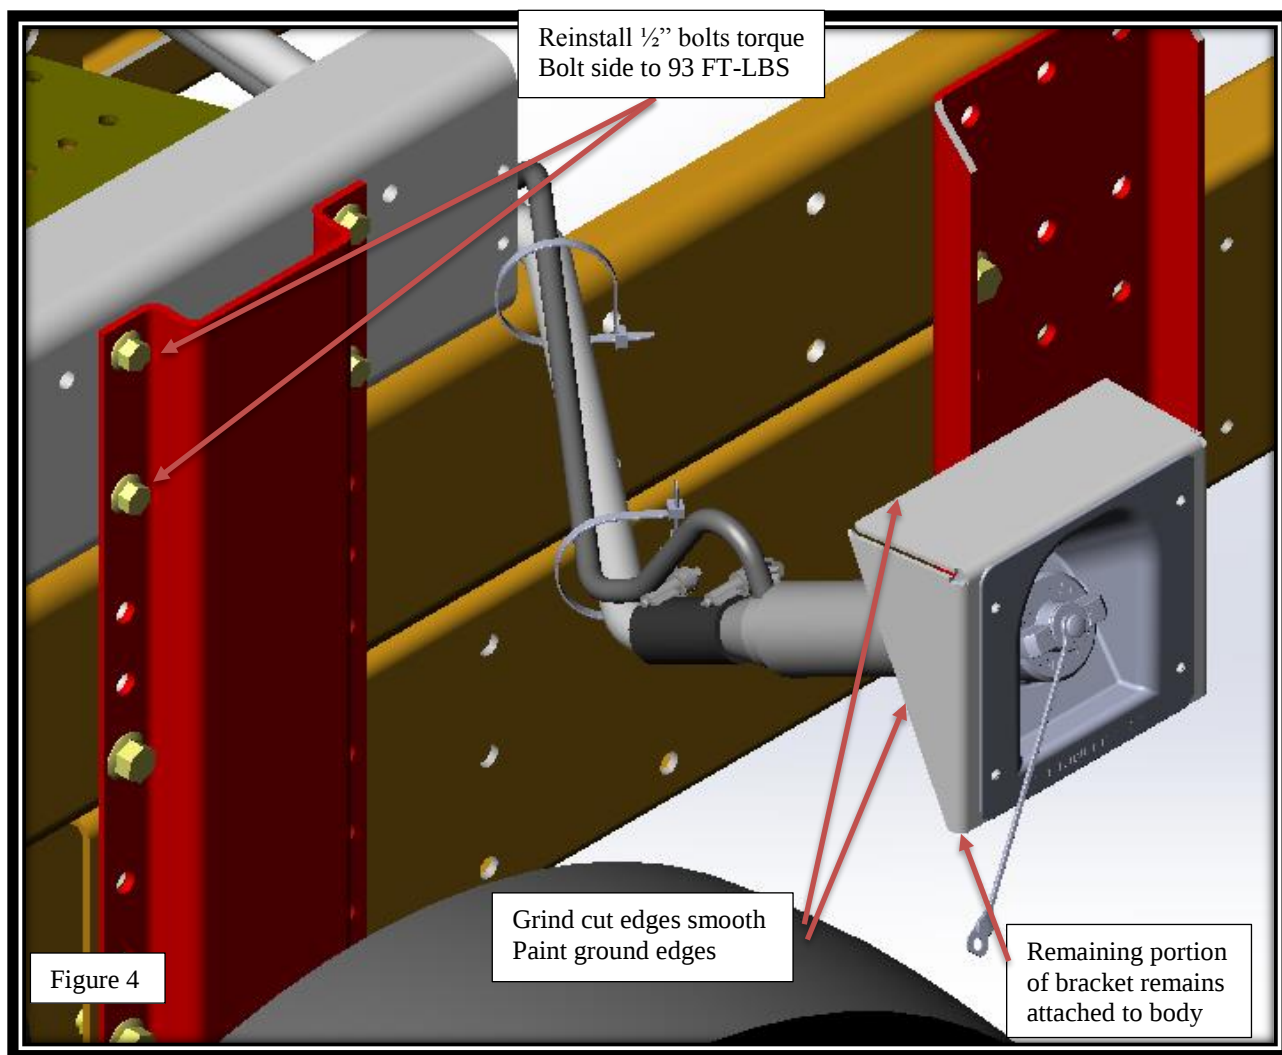

FIG. 5-1
9. Remove and discard cutoff part of bracket. Refer to FIG. 5-1.
10. Reinstall retained hardware - $\frac{1}{2}$ " bolts and torque bolt side to 93 FT-LBS. Refer to FIG. 5-1.
11. Grind cut edges of bracket remaining on coach, smooth. Refer to FIG. 5-1.